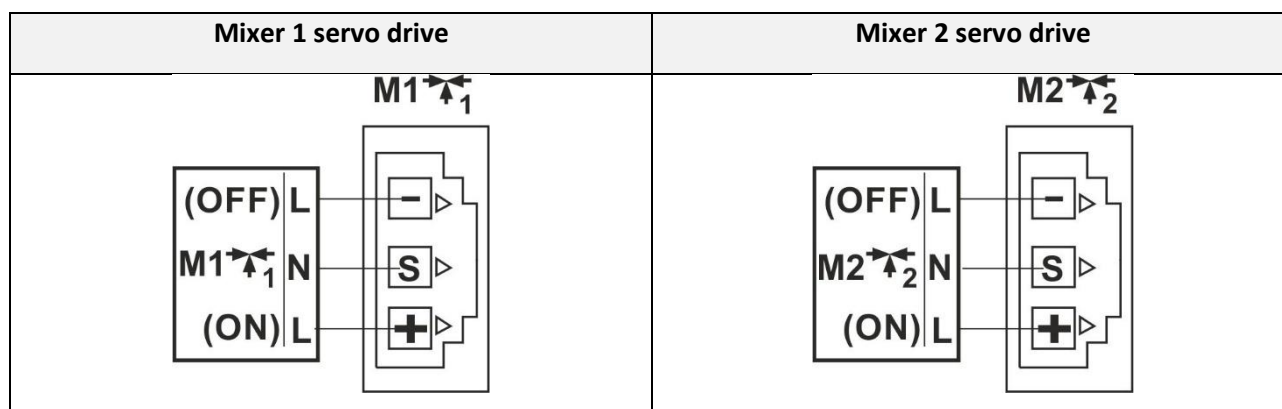

Figure 27. Wiring diagram of Mixer servo drive
- connect the Mixer drive with the controller via the connector on the left wall of the switchboard to the controller (see Figure 27) according to the technical documentation of the actuator manufacturer. Pay attention to the correct designation of the wires for opening and closing the valve.